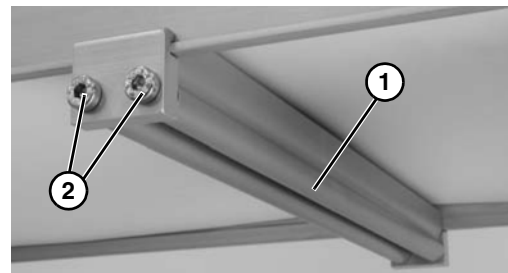

Figure 18
3. Install roller assembly as shown (**Figure 18, item 1**). Tighten screws (**Figure 18, item 2**) to 60 in-lb (7 Nm).